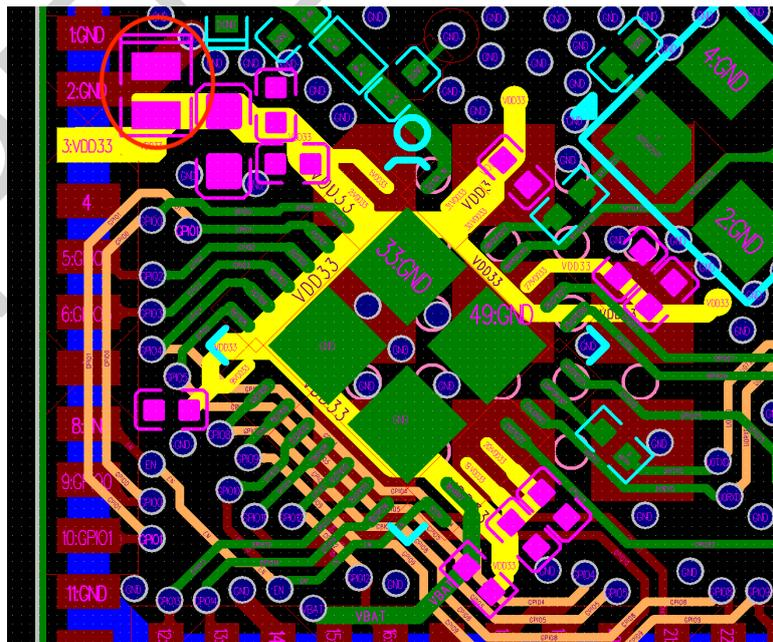

Figure 14: ESP32-H2 Power Traces in a Four-layer PCB Design
- The 3.3 V power traces, highlighted in yellow, are routed as shown in Figure 14. The width of the main power traces should be no less than 20 mil. The width of the power traces for VDD3P3 pins should be no less than 15 mil. Recommended width of other power traces is 10 mil.
- The ESD protection diode is placed next to the power port (circled in red in the top left quarter of Figure 14). The power trace should have a 10 μF capacitor on its way before entering into the chip, and a 0.1 or 1 μF capacitor could also be used in conjunction. After that, the power traces are divided into several branches using a star-shape topology, which reduces the coupling between different power pins. Note that all decoupling capacitors should be placed close to the corresponding power pin, and ground vias should be added close to the capacitor's ground pad to ensure a short return path.
In Figure 14, the 10 μF capacitor is shared by the analog power supply pin1 VDD3P3, pin2 VDD3P3, and the power entrance since the analog power is close to the chip power entrance. If the chip power entrance is not near the VDD3P3 pin, it is recommended to add a 10 μF capacitor to both the chip power entrance and the analog power VDD3P3, and also reserve a 1 μF capacitor if space permits.
- If you need to add a thermal pad EPAD under the chip on the bottom of the module, it is recommended to employ a square grid on the EPAD, cover the gaps with ink, and place ground vias in the gaps, as shown in Figure 14. This can avoid chip displacement caused by tin leakage and bubbles when soldering the module EPAD to the substrate.